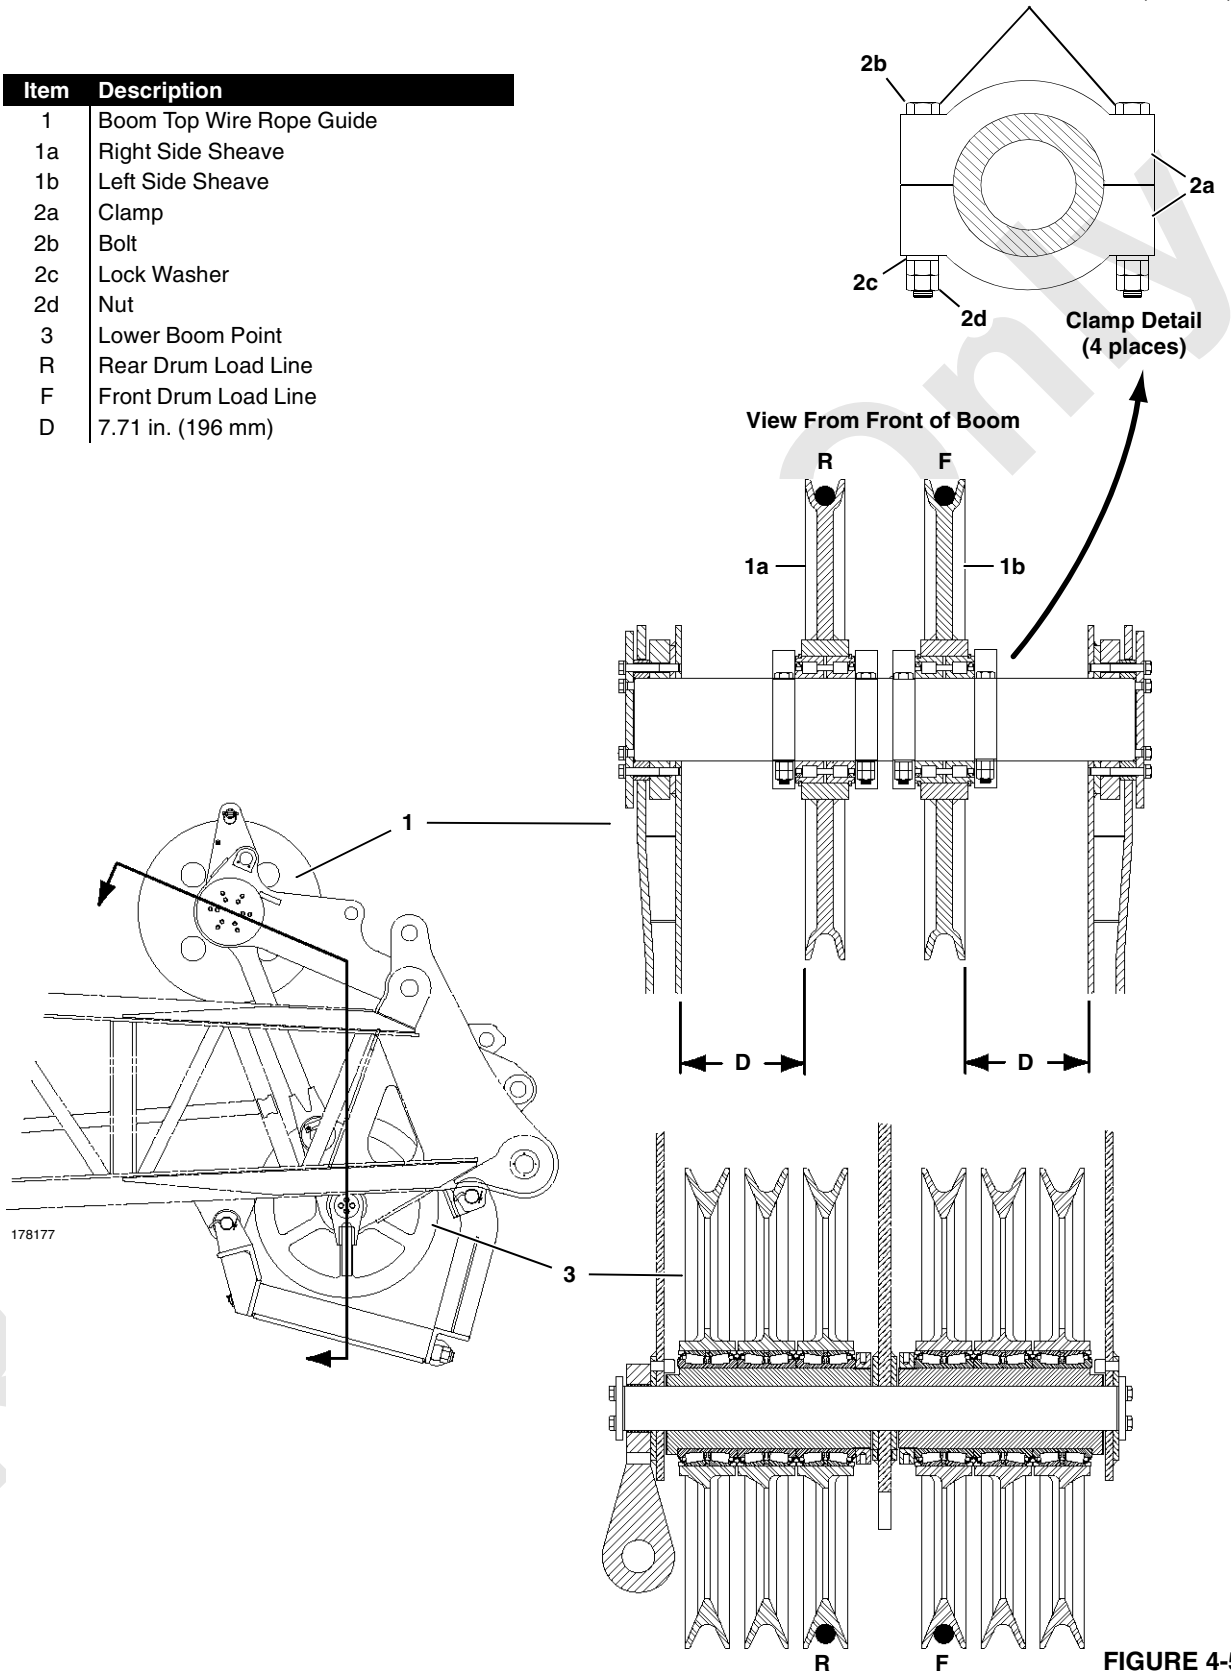

FIGURE 4-50
- Position boom top wire rope guide sheaves as shown in Figure 4-50. *Sheaves must be positioned at indicated dimensions to ensure proper fleet angles.*
- Route wire rope from load drums as shown in Figure 4-50.